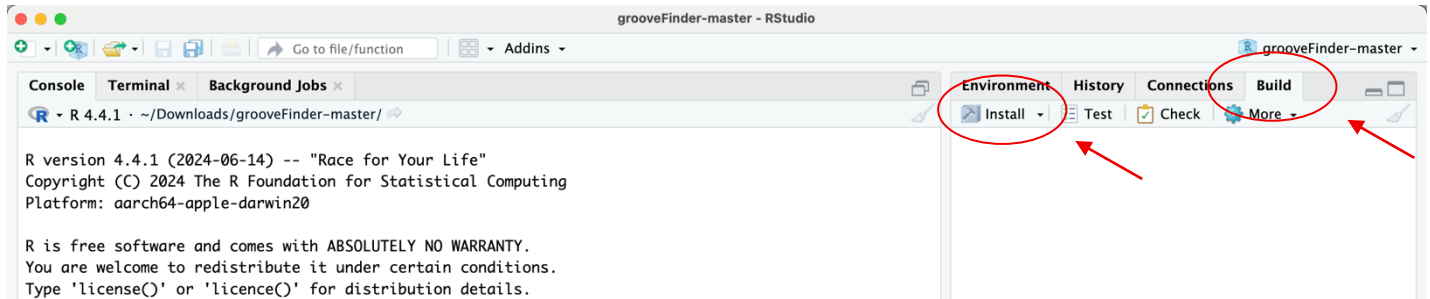

Figure 6. Click Build. Then click Install to install grooveFinder.
- Open the Build tab and click Install to install grooveFinder. (Figure 6)
- Figure 6